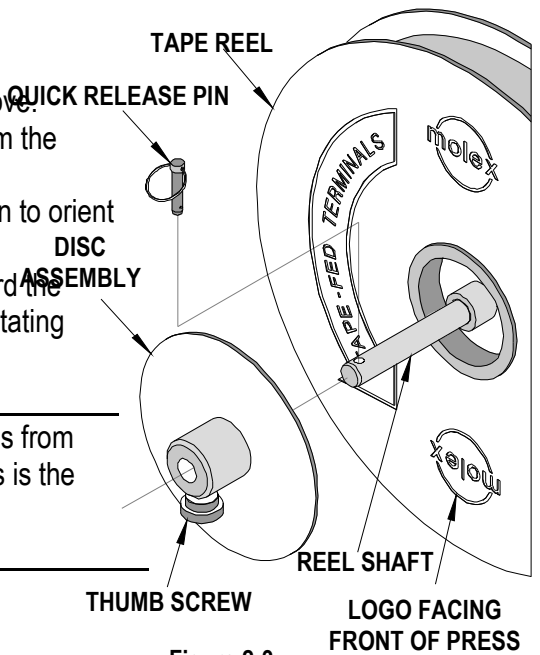

Figure 2-3
2.4. Tape Reel Installation (See Figure 2-3)